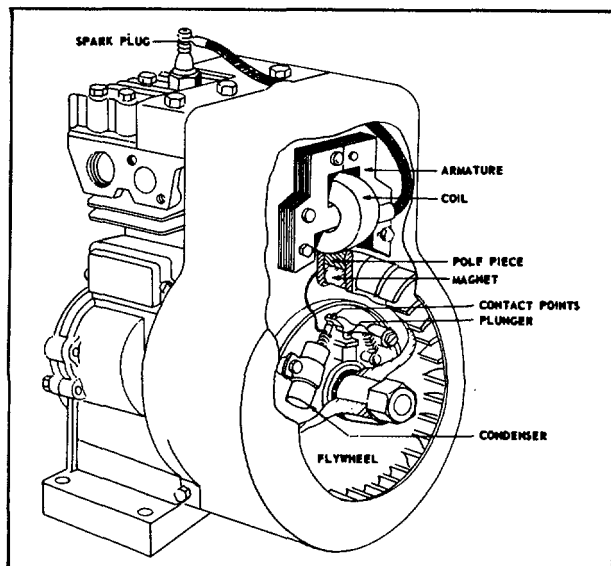

Fig. 4 - Flywheel Ignition Internal Breaker
2. A flywheel type, having either an internal or external breaker system. Fig. 4 and Fig. 25.